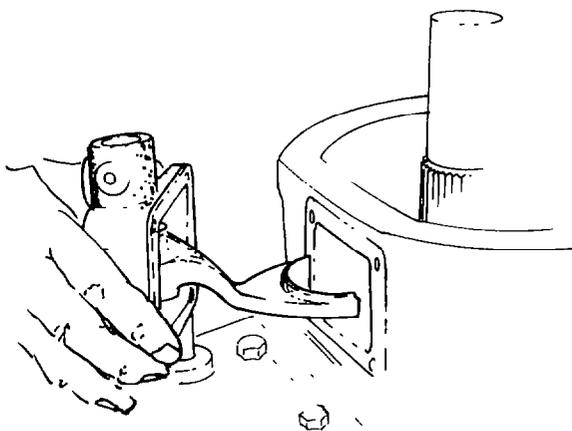

Fig. 259 — Installing Selector Assembly
- ab. Position the gasket on the front drive selector assembly. Install the selector assembly, engaging the selector fork in the groove provided in the front drive sliding clutch (see fig. 259). Install the selector assembly retaining bolts and torque to 14 – 20 Nm (10 – 15 lb.ft).